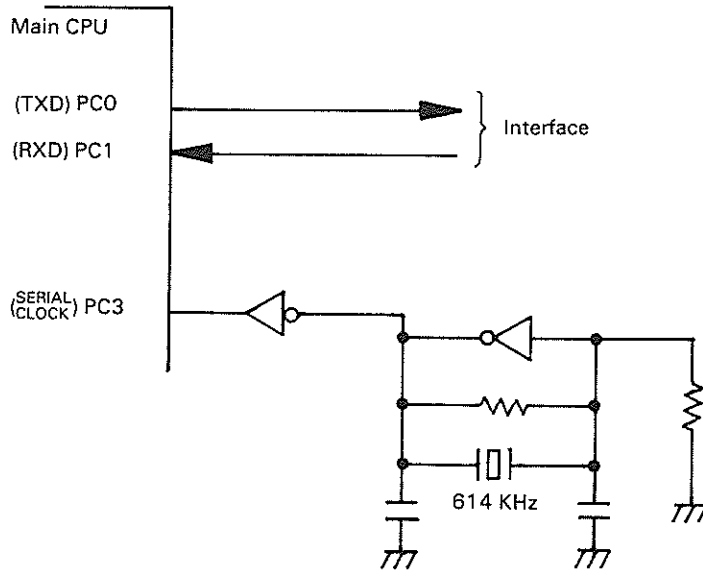

Fig. 2-40. Serial Control Circuit
2.6.8 SERIAL CONTROL (Figs. 2-40 and 2-41)